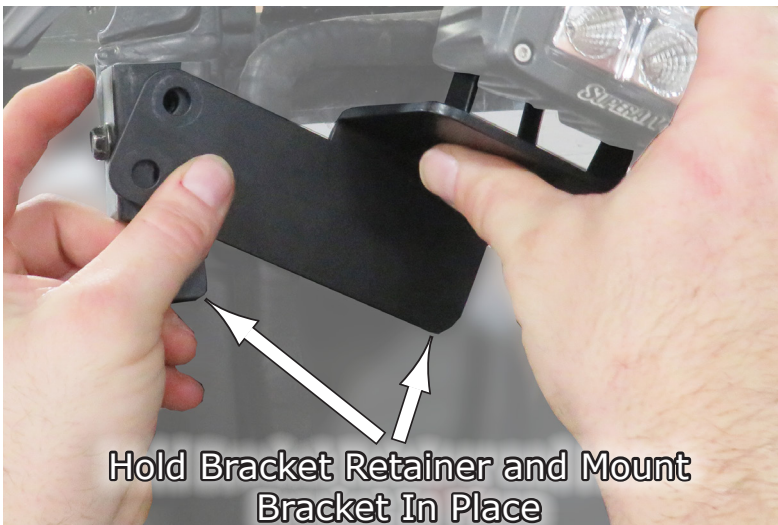

Fig.4a
4. Then while holding the **Retainer** in place, take the **Mounting Bracket** and attach it to the vehicle using the **M8x20 Hex Flanged Bolts** from your kit as shown in **Fig.4a-b**. Tighten Secure.